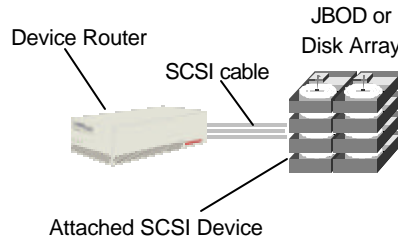

Figure 2-1. Completed Setup of the Device Router
5. Attach the device router to the desired SCSI device(s) as shown in Figure 2-1. Ensure that cable and connectors are securely fastened.